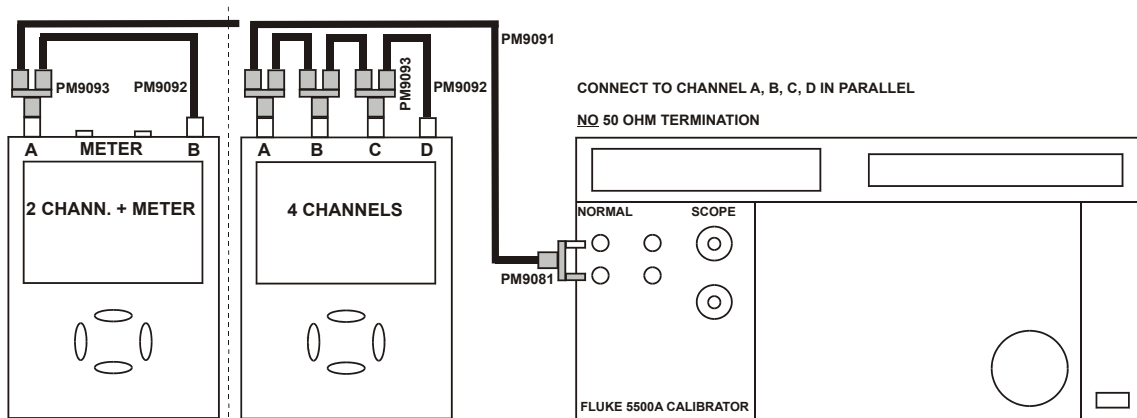

Figure 4-4. Test Tool Inputs A, B, C, D (A, B) to 5500A Normal Output
Connect the Test Tool to the 5500A as shown in see Figure 4-4.
1. Connect the Test Tool to the 5500A as for the previous test (see Figure 4-4)